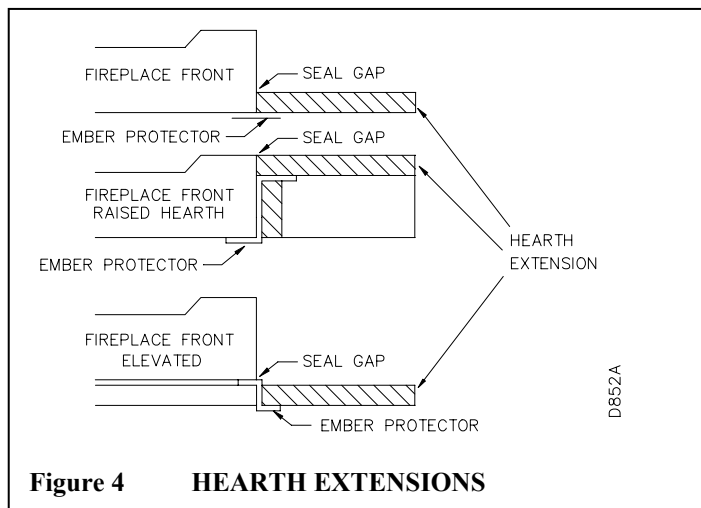

Figure 4 HEARTH EXTENSIONS
STEP 5: Before securing fireplace to prepared framing, the ember protector (provided), must be placed between hearth extensions (not supplied), and under the bottom front edge of the fireplace to protect against glowing embers falling through. If the fireplace is to be installed on a raised platform, a Z-type ember protector (not supplied) must be fabricated to fit your required platform height. The ember protector should extend under the fireplace a minimum of 1". The ember protector should be made of galvanized sheet metal (28 Ga. minimum) to prevent corrosion (see figure 4).
If the hearth extension is to be covered, use non-combustible material such as tile, slate, brick, concrete, metal, glass, marble, stone etc. Provide a means to prevent the hearth extension from shifting and seal the gap between the fireplace frame and hearth extension with a non-combustible material (see figure 4).